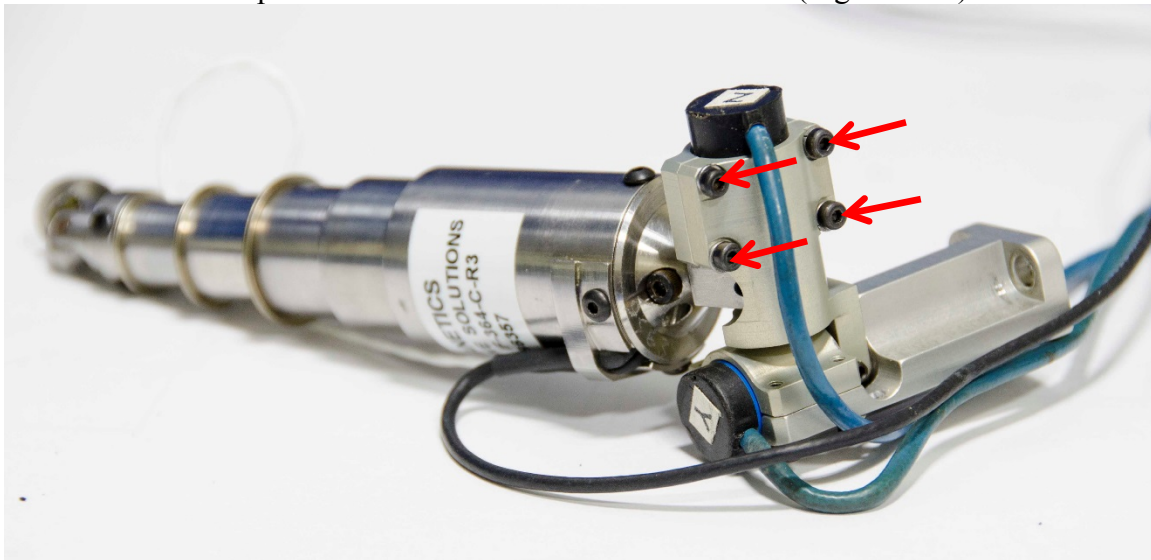

Figure 6-17. Install Z-axis potentiometer and clamp for lower thorax IR-TRACC
- 6.2.2.11 Insert the Z-axis potentiometer through the end of the THOR-M Chest IR-TRACC (SA572-S117) and install the IR-TRACC Clamp (472-3554) using four M2 split lock washers and M2 x 0.4 x 8 SHCS (Figure 6-17).